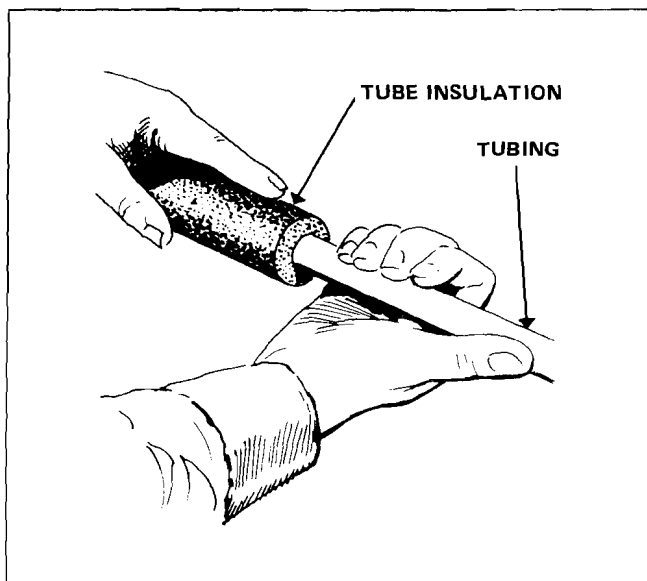
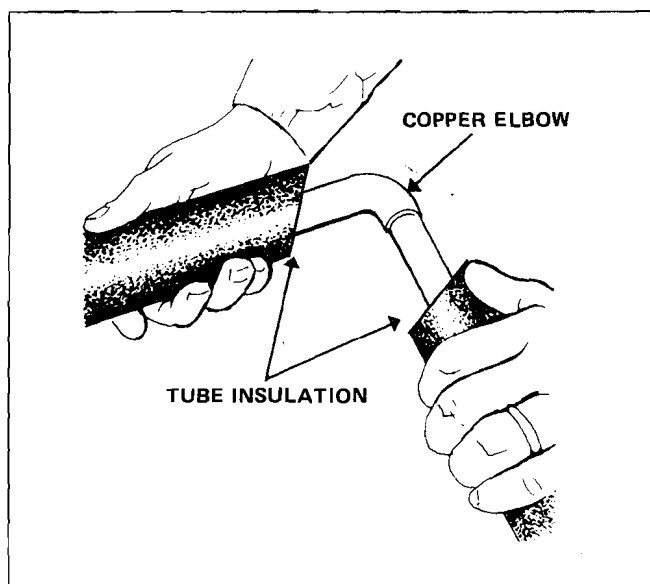

FIGURE 9 – SLIPPING INSULATION ON TUBING
FIGURE 10 – BUTTING TUBING INSULATION AGAINST FITTINGS
- (2) Slip insulation over tube (see figure 9).
- (3) Insulation can be slipped over bent tubing, 45 degree elbows, and couplings.
- (4) For elbows over 45 degrees, miter-cut the insulation, butt, and glue against each side of fitting (see figure 10).
- (5) Where mitering is not possible, cover exposed fittings with insulating tape (refer to paragraph d).